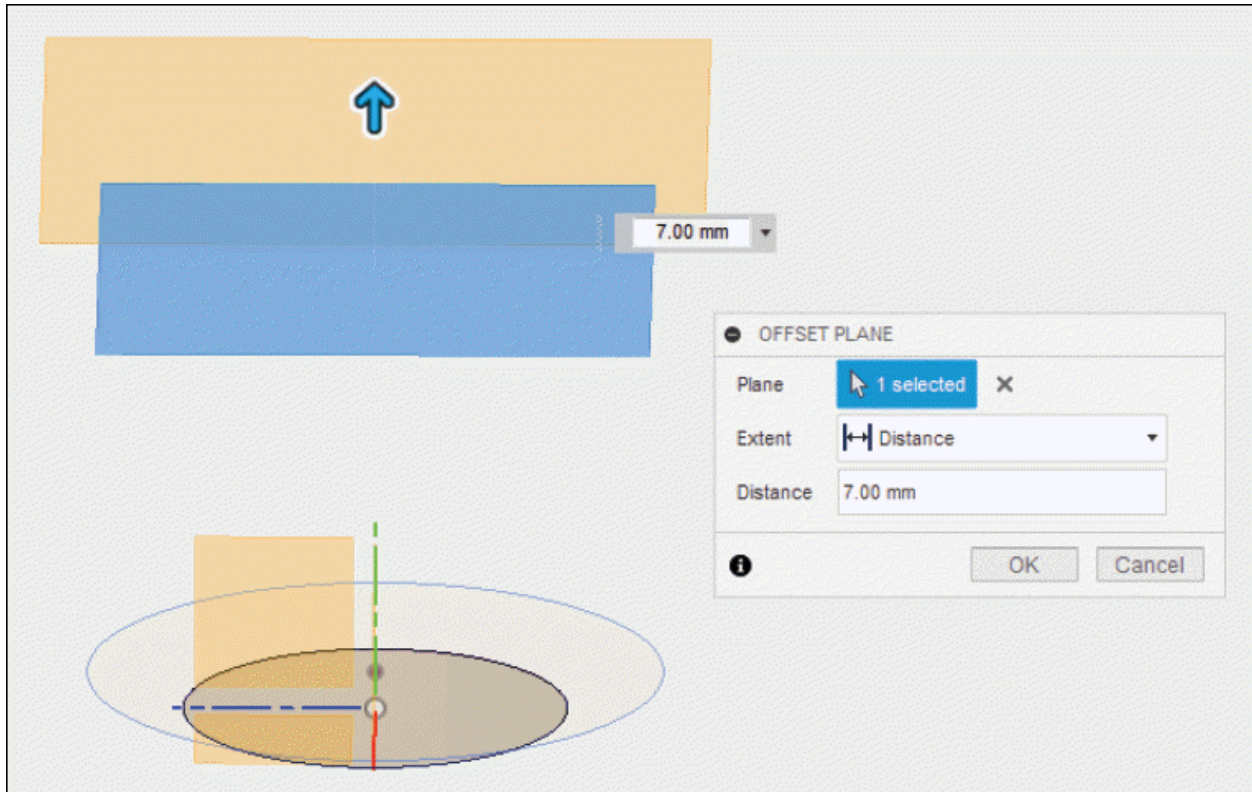

Figure-78. Creation of third offset plane
- Click in the **Distance** edit box and enter the value as **7**; refer to Figure-78. You can also set the distance by moving the drag handle.